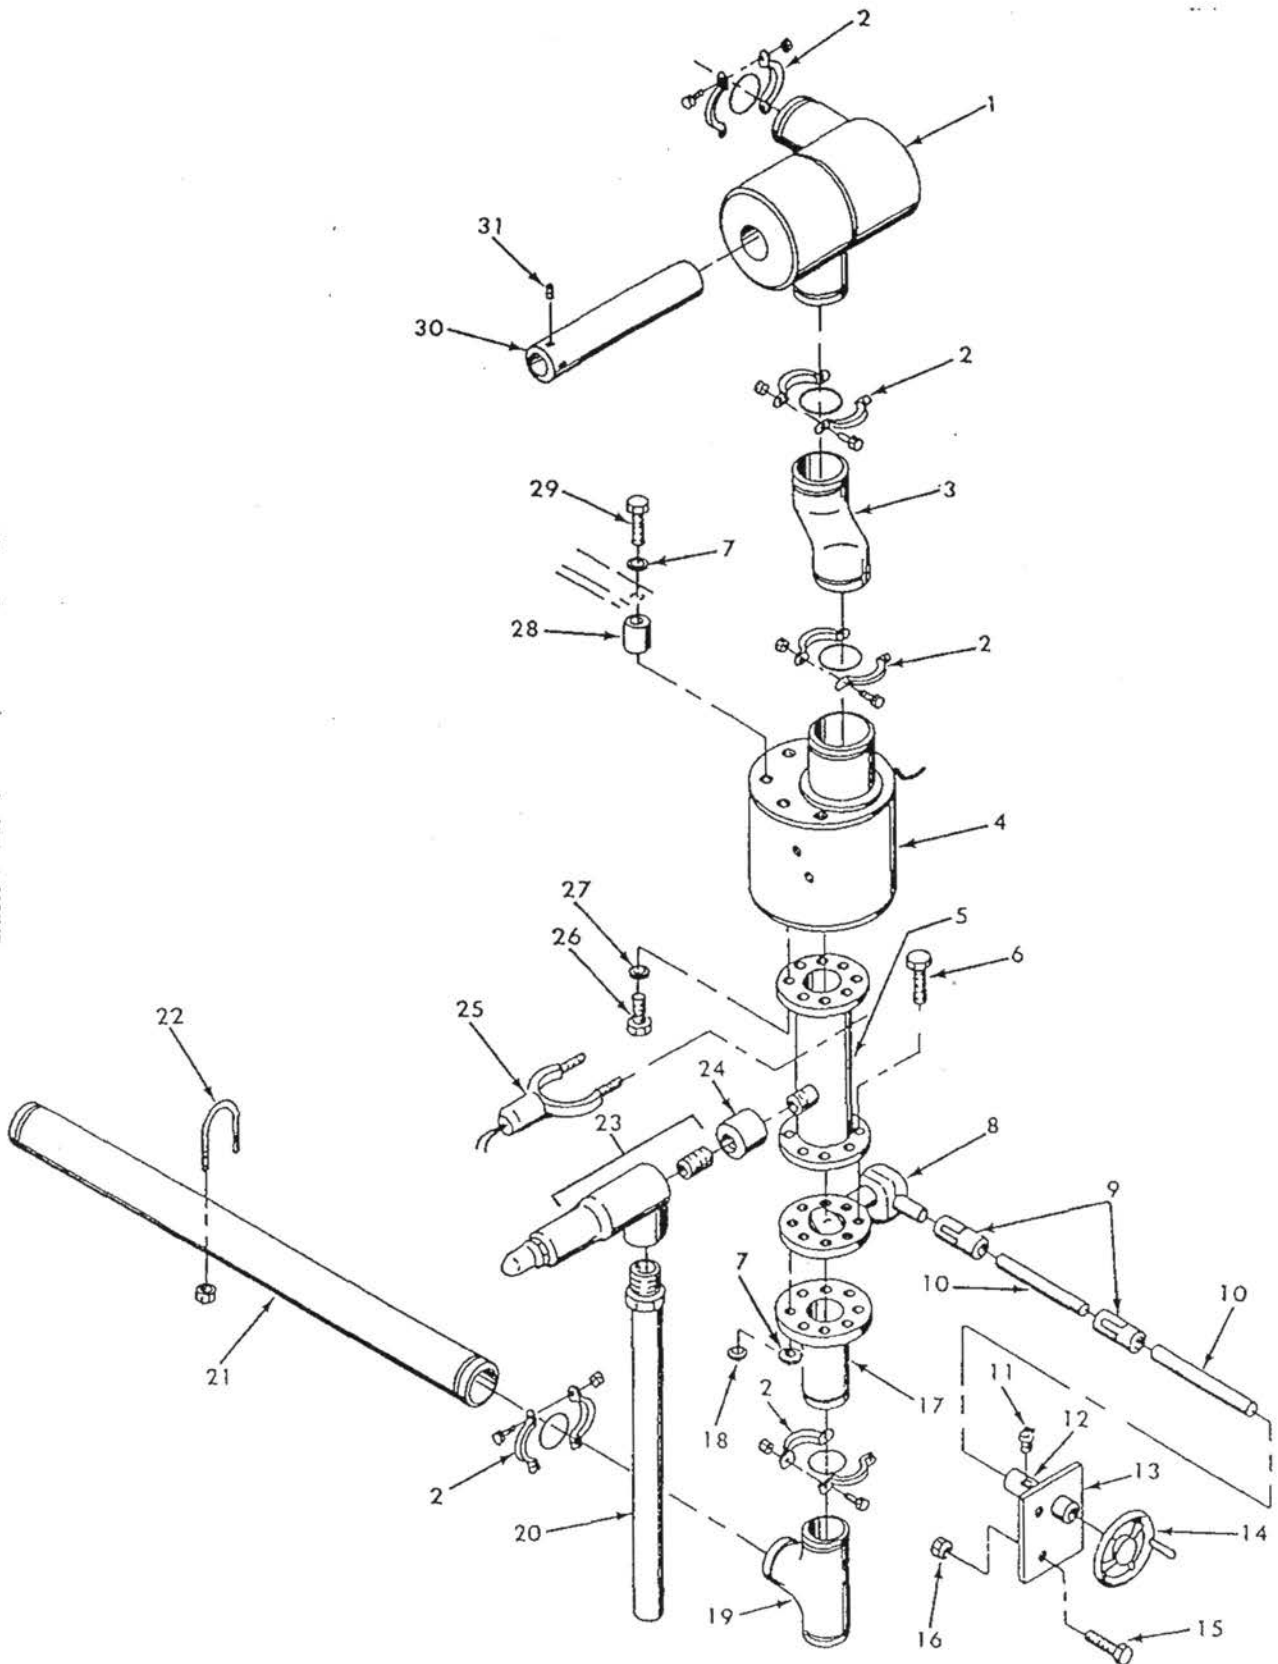

FIGURE 5 LOWER WATERWAY ASSEMBLY
<p>*NOTE: When ordering a complete Water Swivel, it may be necessary to order item 13, Figure 5, "Swivel to Pin Sleeve", as this item has replaced two existing bearings used on older manufactured units.</p>